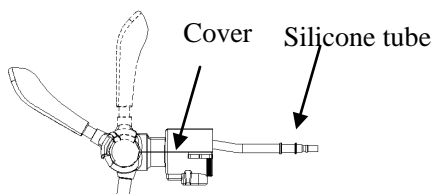

Figure 33
B. TO CHANGE BEER TUBE (show as figure 33)